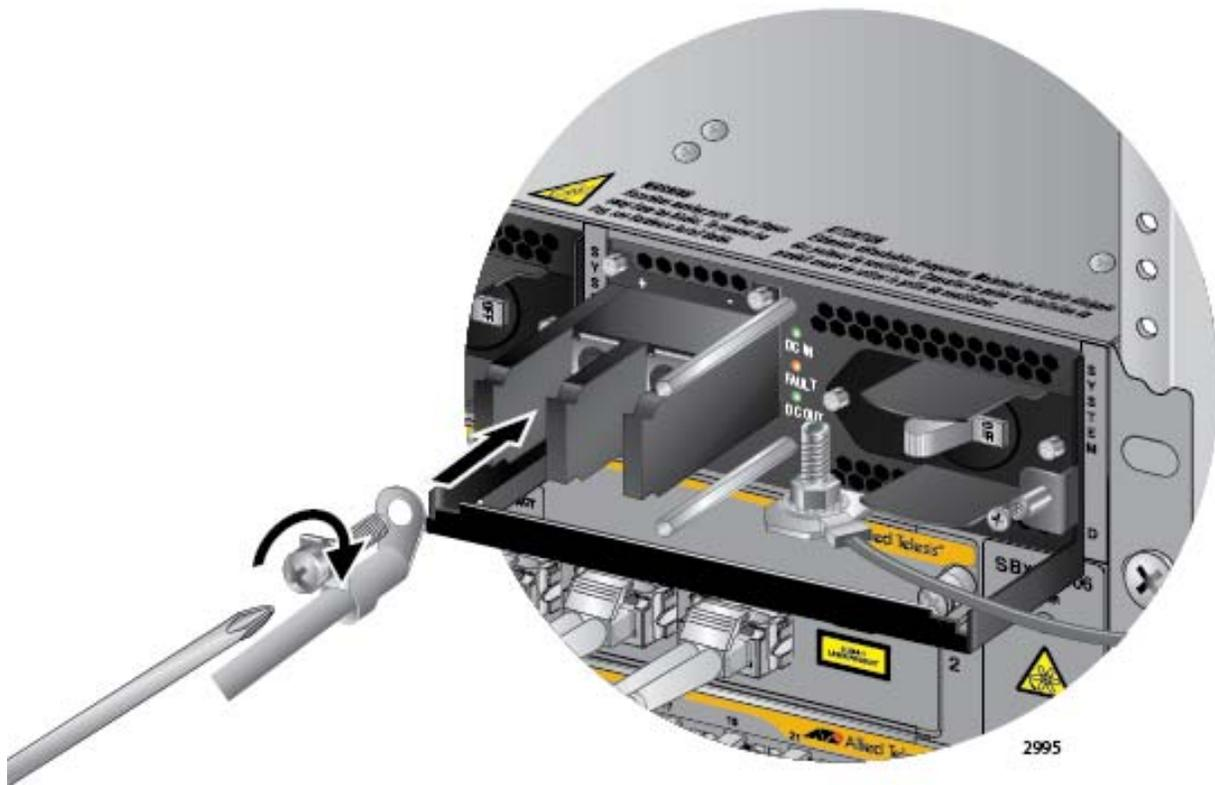

Figure 126. Connecting the Positive (+) Power Wire with a Right Angle Terminal
6. With a #3 Phillips-head screwdriver, connect the positive (+) power lead wire to the positive terminal on the power supply, with one of the terminal screws removed in the previous step. The positive terminal is on the left. Refer to Figure 126 on page 170.